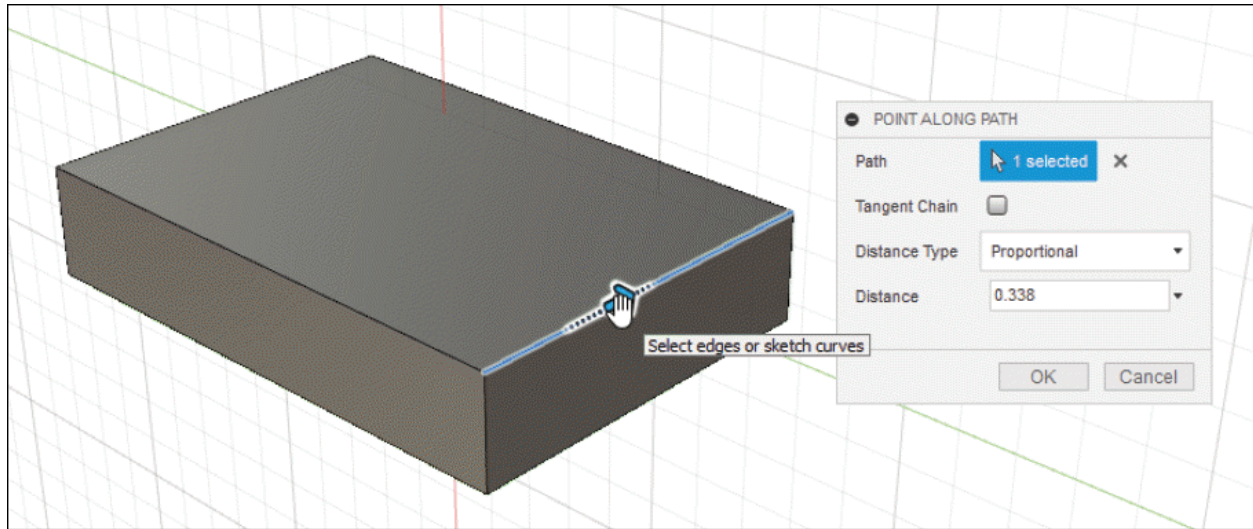

Figure-142. Selection of path to create point
- **Path** selection of **POINT ALONG PATH** dialog box is active by default. Click on the edge/curve from model as reference for point. On selecting the path, the updated **POINT ALONG PATH** dialog box will be displayed; refer to Figure-142.